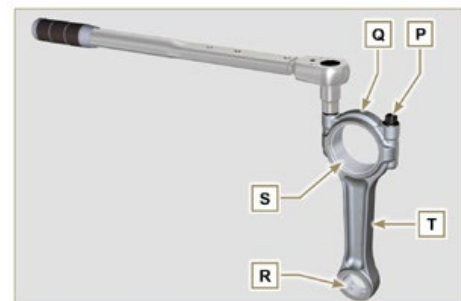

Fig 8.12
- If the clearance value between **B and C** is not observed, you are required to replace bearing **R (Fig. 8.12)**.
Lubricate gudgeon pin **A** and bearing **R (Fig. 8.12)**.